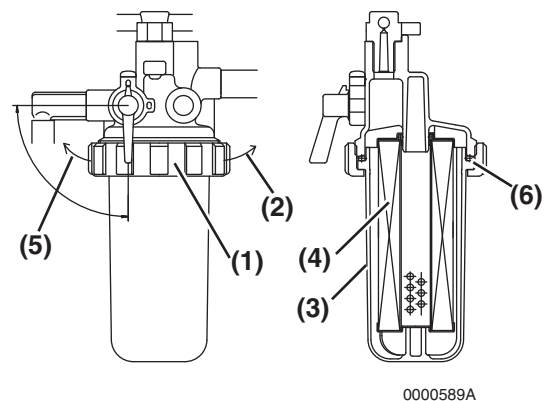

Figure 5-14
3. Turn the retaining ring (Figure 5-14, (1)) to the left (Figure 5-14, (2)).
4. Carefully remove the cup (**Figure 5-14, (3)**) and pour the fuel into an approved container and dispose of waste properly. Hold the bottom of the cup with a shop towel to prevent the fuel from dripping. Wipe up any spills immediately.
5. Remove the element (**Figure 5-14, (4)**) by pulling it down.
8. Check the condition of the cup O-ring (**Figure 5-14, (6)**). Replace if necessary.
9. Reinstall the cup to the mounting flange and turn the retaining ring (**Figure 5-14, (1)**) to the right (**Figure 5-14, (2)**). Hand-tighten only.